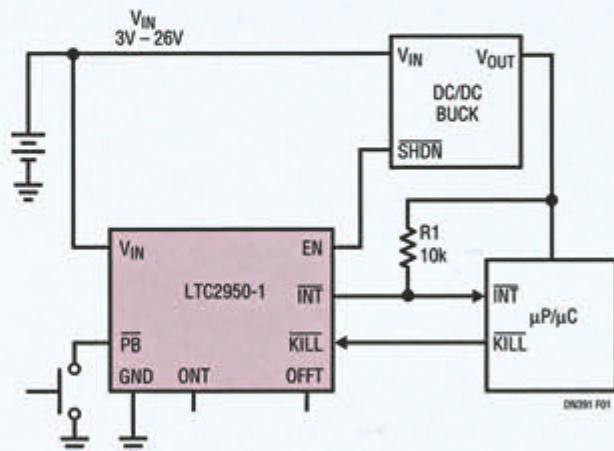
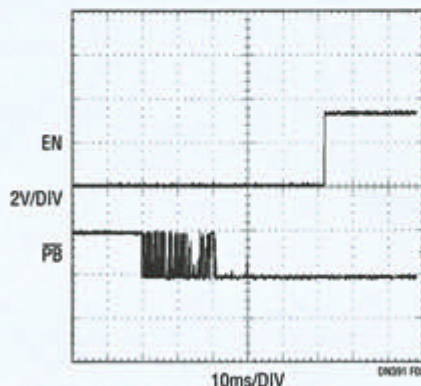

Figure 1. Typical Application with One External Component
Figure 2. Turn On De-Bounce Timing
The circuit in Figure 1 provides manual control of the shutdown pin of a DC/DC converter. To turn on the converter, the LTC2950 first de-bounces the pushbutton input and then releases the low leakage enable (EN) output. The turn on de-bounce time defaults to 32ms and is extendable by placing an optional capacitor on the ONT pin. This allows the handheld designer to adjust the length of time the user must hold down the pushbutton before turning on power to the device. The timing of Figure 2 illustrates performance with a noisy $\overline{\text{PB}}$ pin.
alent "unknown" resistor consisting of Q_3 's drain-to-source on-resistance, plus R_4 , plus R_5 . Q_3 , a BF245A JFET, presents the on-resistance. Q_3 's "A" suffix is important because it corresponds to an on-resistance of 200 Ω to 2 k Ω for a gate-to-source voltage of 0 to 1V (**Figure 2**). Other devices in the BF245 family exhibit a less pronounced change of resistance versus gate-to-source voltage. To correct the measurement nonlinearity inherent in Q_3 's gate-to-source voltage versus drain-to-source on-resistance transfer, the microprocessor's software includes a 100-point look-up table that